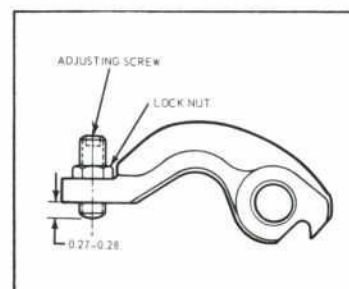

Figure 6—Rear Servo Lever Adjusting Screw Dimension
1. With the transmission mounted in a holding fixture, loosen the internal rear servo adjusting screw lock nut (Fig. 6).
2. Set the internal adjusting screw to the dimension shown in Figure 6. Tighten the lock nut.